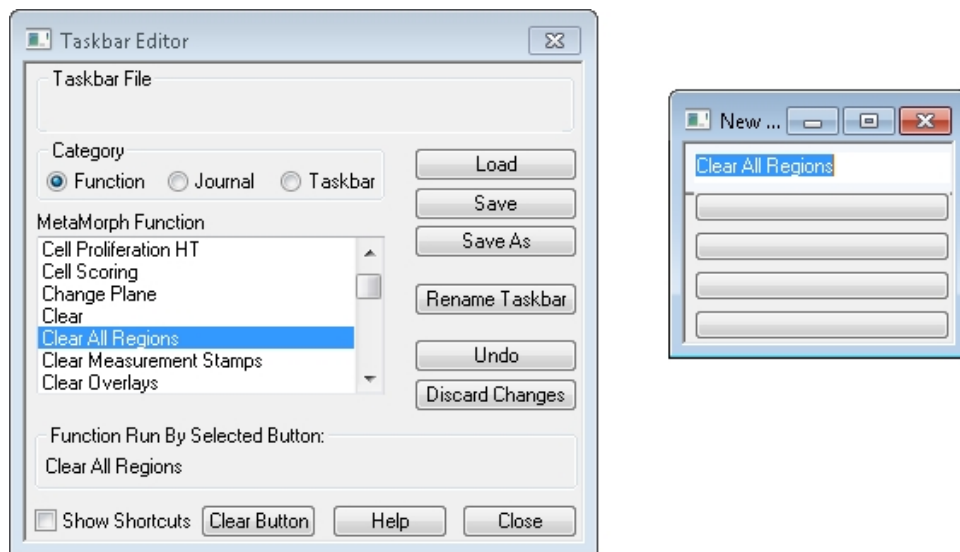

Figure 6-3: Adding a function to a taskbar
7. When you have located the item you want to add to the taskbar, double-click its entry in the list to add it to the active button in the taskbar as shown in Figure 6-3.